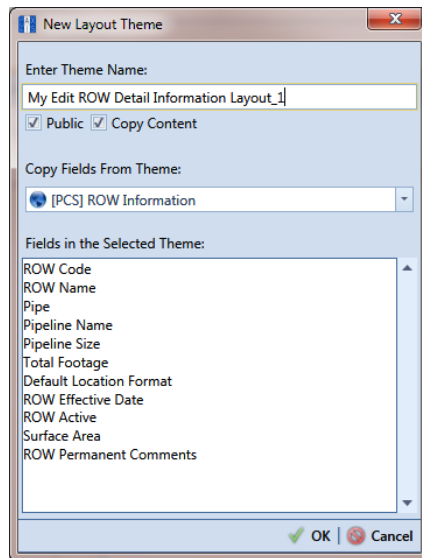

Figure 4-33. New Layout Theme
- 4 Click the **Customize** tab  then  **Add** to open the *New Layout Theme* dialog box. The following figure shows an example when adding a layout for the *Information* grid (Figure 4-33).